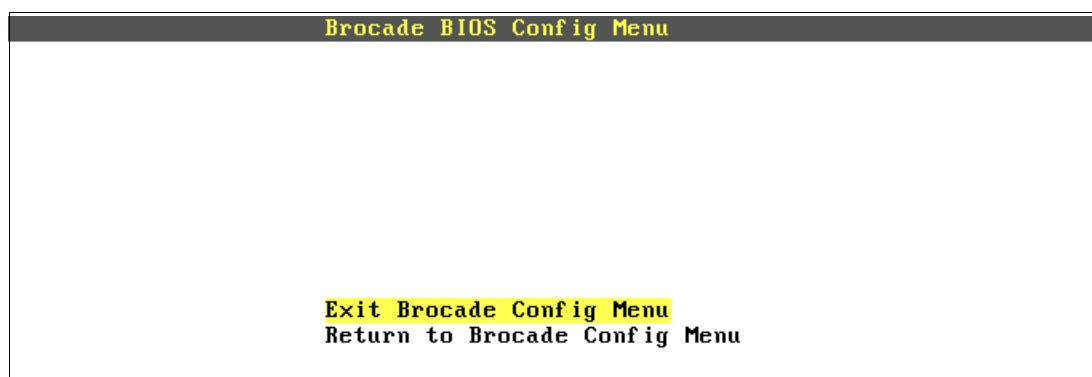

Figure 9-212 Exiting the Brocade Config Menu panel
17.As shown in Figure 9-212, select **Exit Brocade Config Menu**.